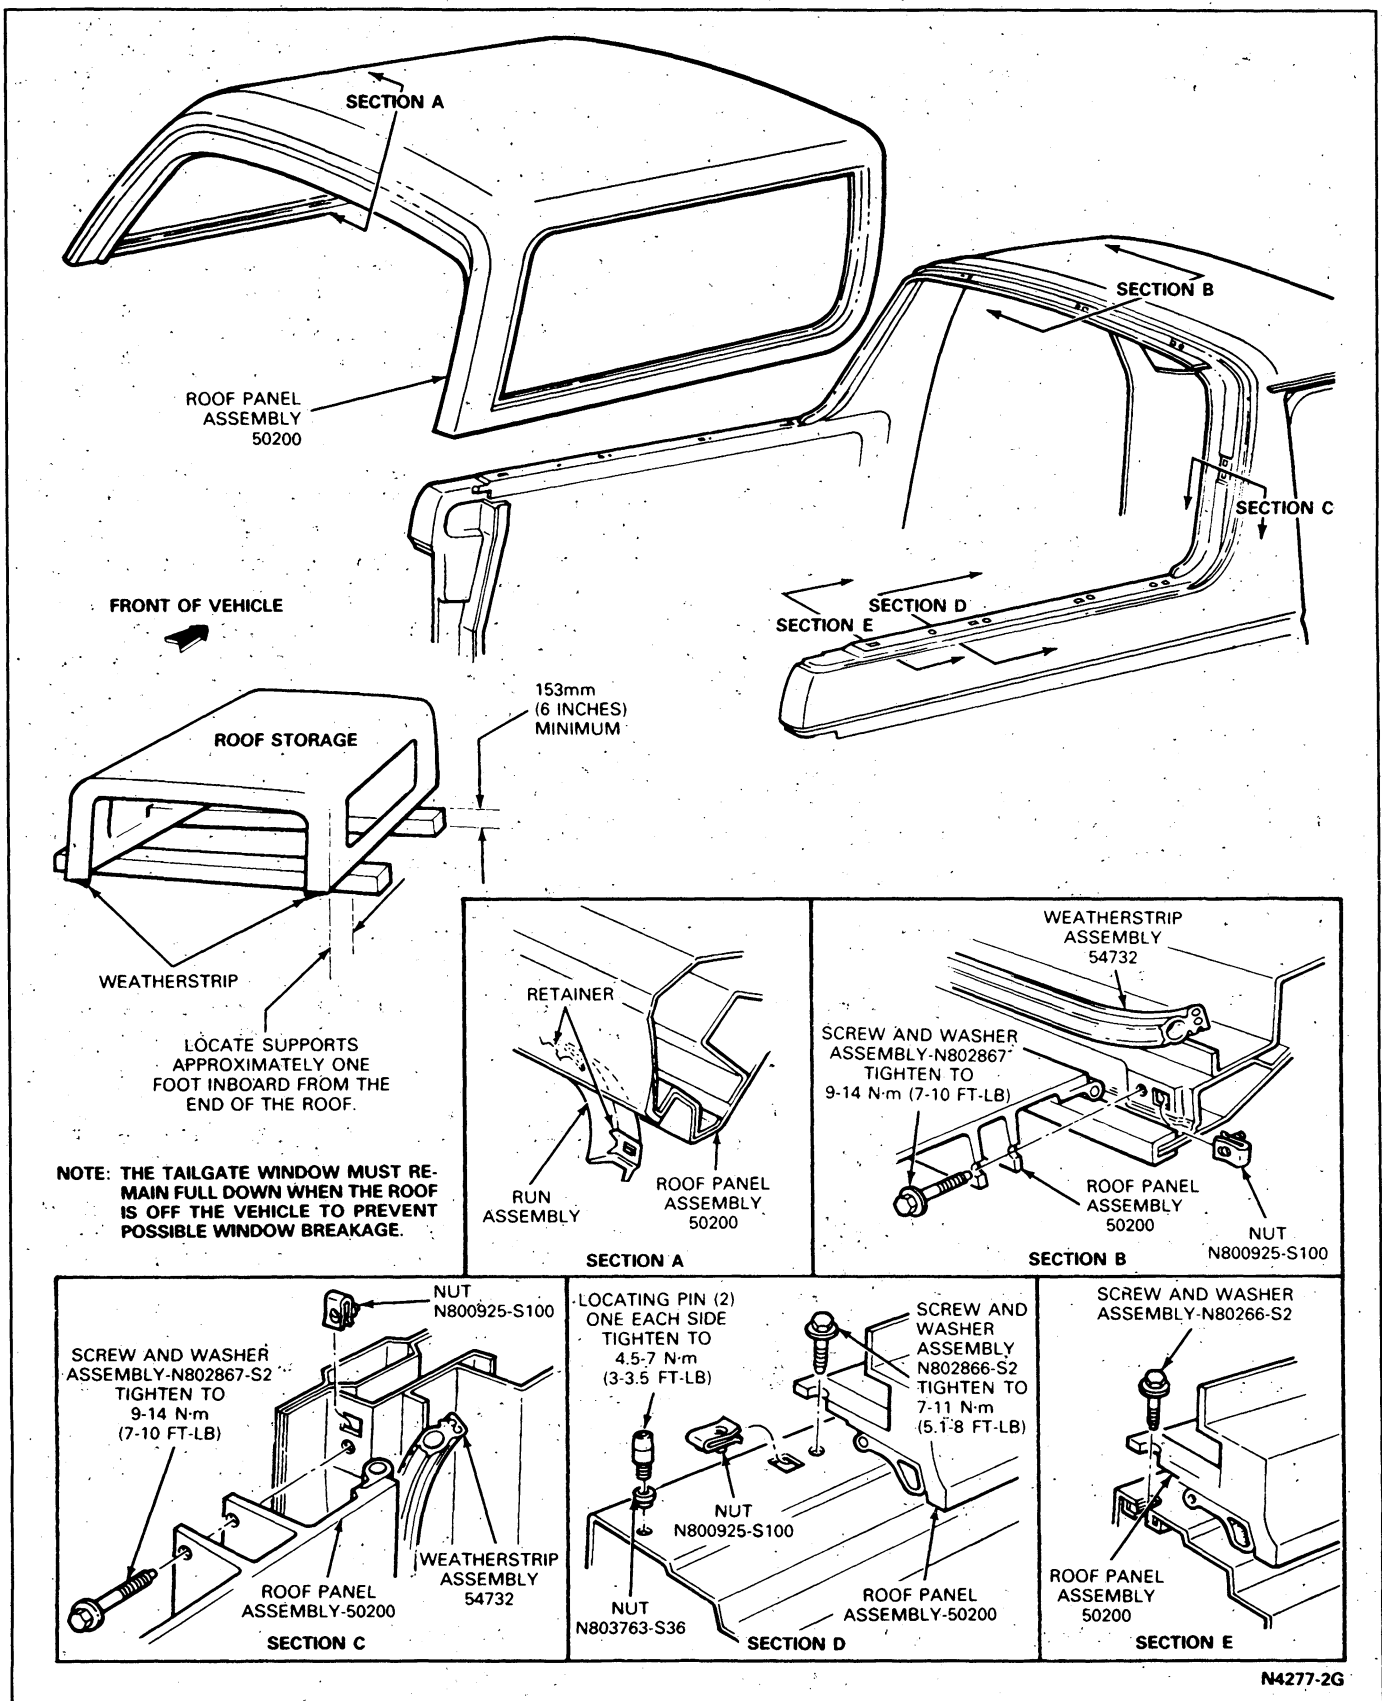

FIG. 1 Fiberglass Roof Removal and Installation
4. Remove all the roof attaching bolts and moulding attaching brackets (Fig. 1).
6. Remove the two fiberglass roof locating pins (Fig. 1).
1. Install the two fiberglass roof locating pins (Fig. 1). Ensure the tailgate window is in the full down position. Ensure that the tailgate is down.
4. Install the upper roof fasteners (Fig. 1). Install remaining roof fasteners (Fig. 1). Fasteners should be tightened enough to compress weatherstrip without distorting roof.
To prevent permanent deformation to the portion of the belt weatherstrip extending below the lower edge at the rear of the fiberglass roof, store the removed roof right side up on a level surface at least 152mm (6 inches) above the ground (Fig. 1).